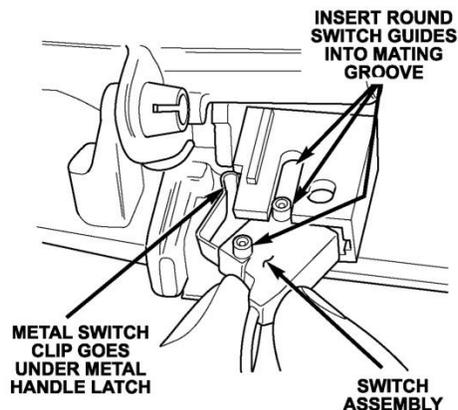

Figure 4
13. Install the new flip-up window switch into the handle assembly (Figure 4). Tilt the switch so that the metal clip on the switch goes under the metal door handle latch. Ensure that the round switch guides slide into the mating groove on the handle.